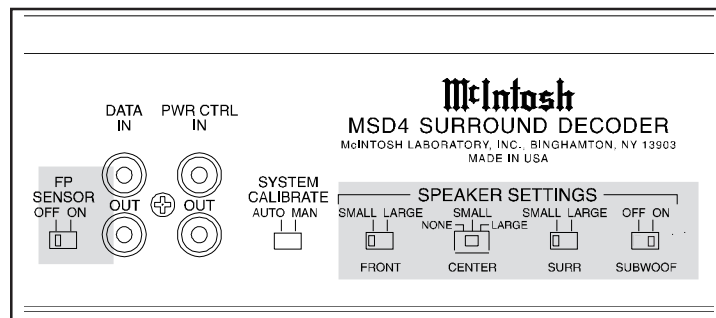

Figure 3
*NOTE: This prevents the MSD4's built-in sensor from receiving the remote control commands that have been already received directly from the C39 or MX130, thus causing improper functioning. Refer to Figure 3.*